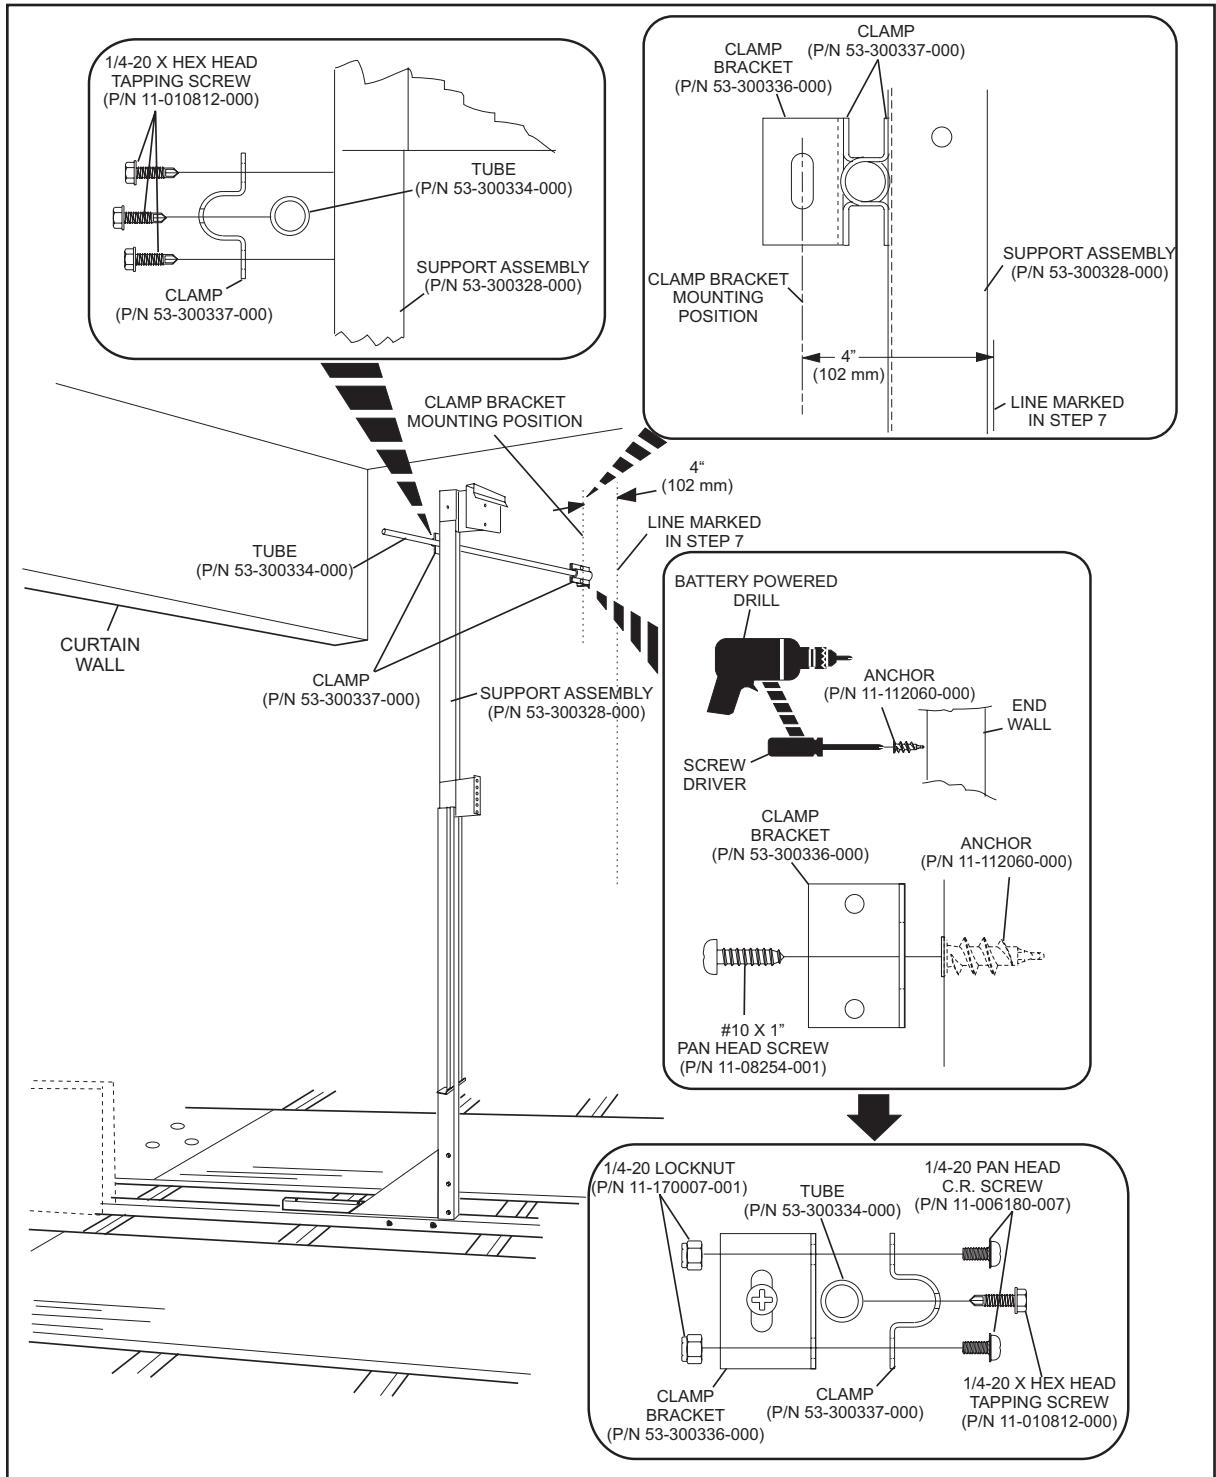

Figure 36
3. Attach end graphic bracket with provided hardware. Refer to *Figure 36*.
2. Make plumb to string and tighten. Install cross support tubing with provided hardware. Refer to Figure 36.